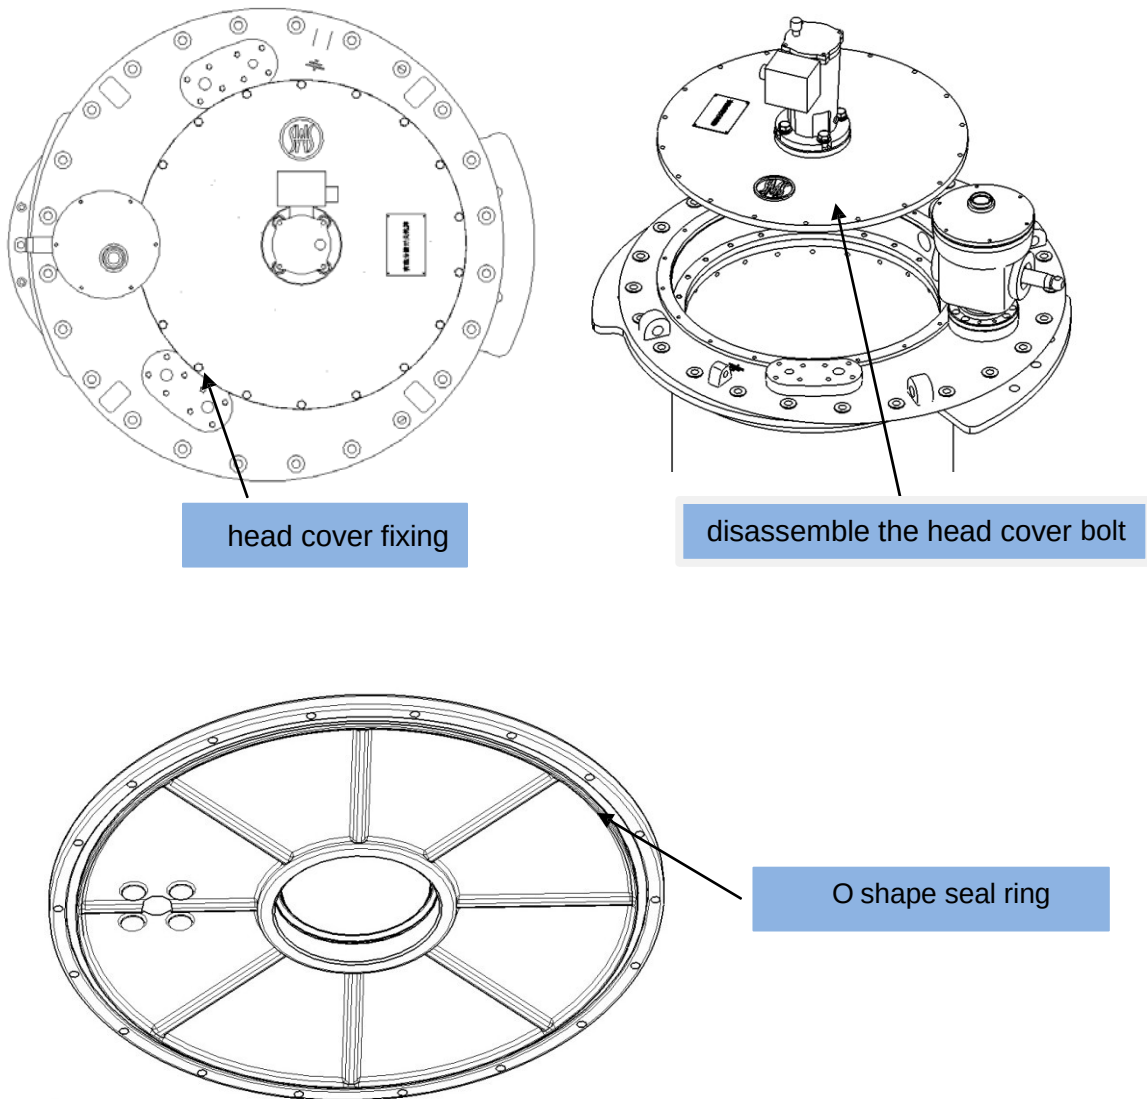

Figure 4
3. Disassemble the OLTC head cover (See Figure4). During disassembly and other operations, avoid damaging OLTC head cover and seal surface (O shape seal ring, see Figure4).